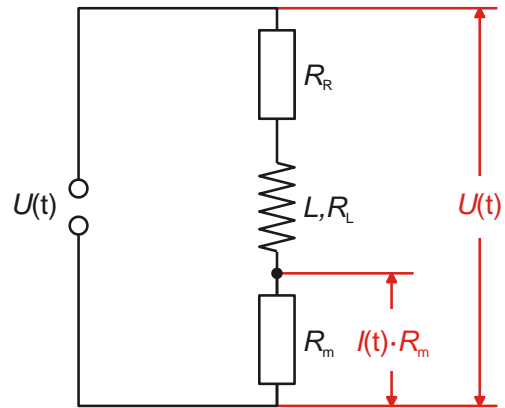
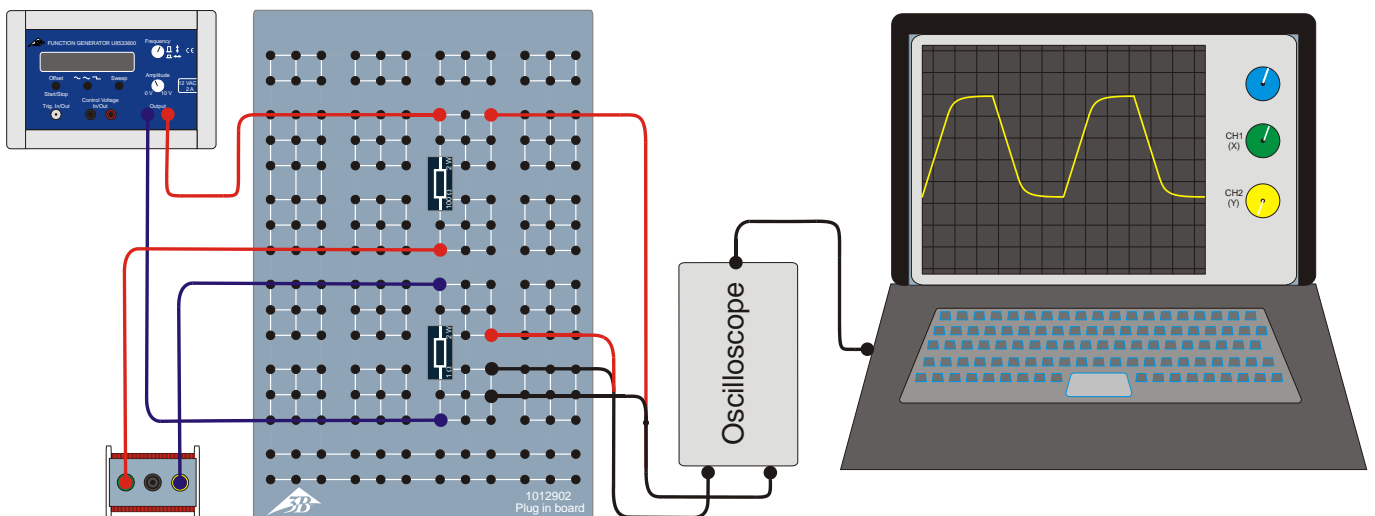

Fig. 3: Sketch of circuit
Fig. 2: Sketch of experiment set-up
- Plug one of the 23 mH coils with 1200 windings and the measurement resistor $R_m = 1 \Omega$ into the plug-in board as shown in Fig. 2 and Fig. 3. Initially plug in a jumper in place of one test resistor R_R .
- Set-up the apparatus as shown in Fig. 2.
- Assemble the circuit shown in Fig. 3 on the plug-in board.